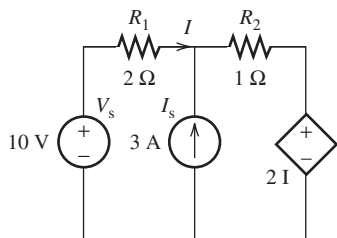

FIGURE P3.69 Circuit for Problem 3.69.
- 3.69** (A)* Find the current I in Figure P3.69 using the superposition principle.